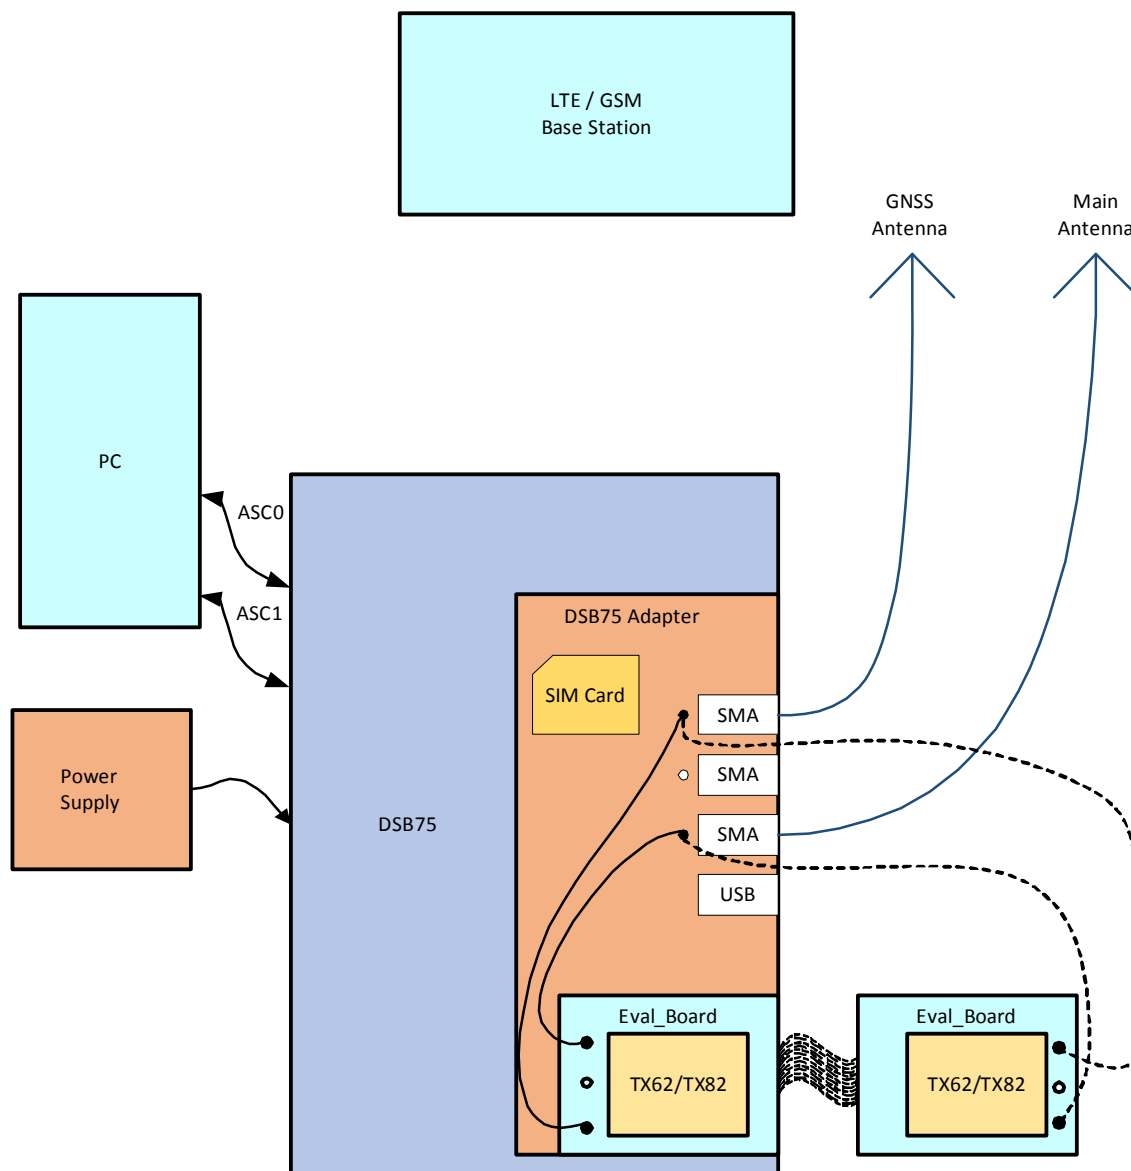

Figure 72: Reference equipment for type approval
1. For RF performance tests a mini-SMT/U.FL to SMA adapter with attached 6dB coaxial attenuator is chosen to connect the evaluation module directly to the LTE/GSM/GNSS test equipment instead of employing the SMA antenna connectors on the TX62/TX82-DSB75 adapter as shown in Figure 72. The following products are recommended: